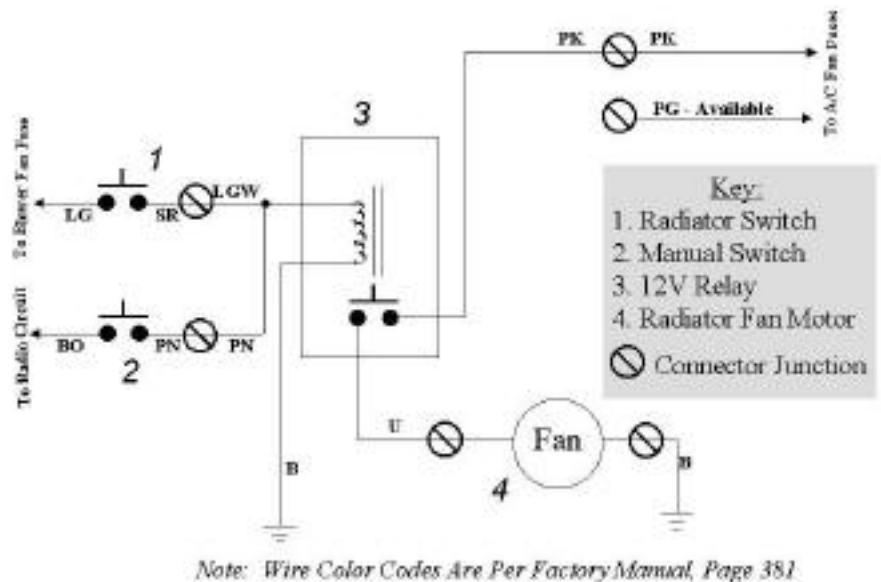

Figure 2: TR7 Electric Fan - New Circuit
Figure 2 is a wiring diagram of the new system using both existing and new components. The new parts that had to be purchased were the fan, relay, and a few connectors and shrink-wrap tubing. That's it.
Installation took about a half-day [Note 3]. First of all we took off the fan, fan belt, and idler pulley, then cut off the crank pulley extension. A new alternator drive belt was put back on. The relay was attached to the body frame that goes in front of the engine (the one that holds the radiator) on the left hand side (to take advantage of the A/C wiring harness. The old A/C relay harness connector was modified to fit the circuit of Figure 2, and the fan was mounted to the radiator using the straps provided. The new wiring was then secured by wire ties, and tested. Worked the first time. Figure 3 shows the engine compartment with the components installed. Figure 4 is a shot of the relay mounted to the engine compartment where the A/C relays were.
Referring to Figure 2, the electric radiator fan is set into operation either by closing the manual switch (2), or the water temperature rises enough to close the radiator thermostatic switch (1). In either case, closing of a switch will apply 12V to a relay (3). The relay contacts close, applying 12V from the old A/C fan circuit to new electric fan (4). The manual switch gets it's power from the radio circuit (used due to it's close proximity to the manual switch), and the radiator switch uses the blower motor circuit. Only one of the two existing A/C fan circuits is used. The other is still available as a source of 12V, 10A power in the front of the engine compartment.